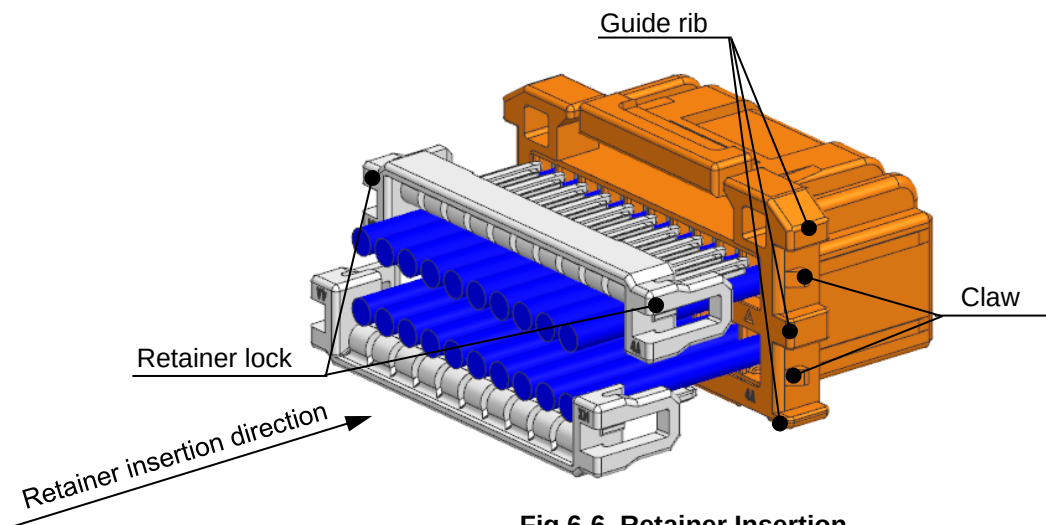

Fig.6-6 Retainer Insertion
- ① Hold the housing and retainer lightly so that the right and left sides are pinched.
- ② Insert retainer from the direction shown in **Fig.6-6**.